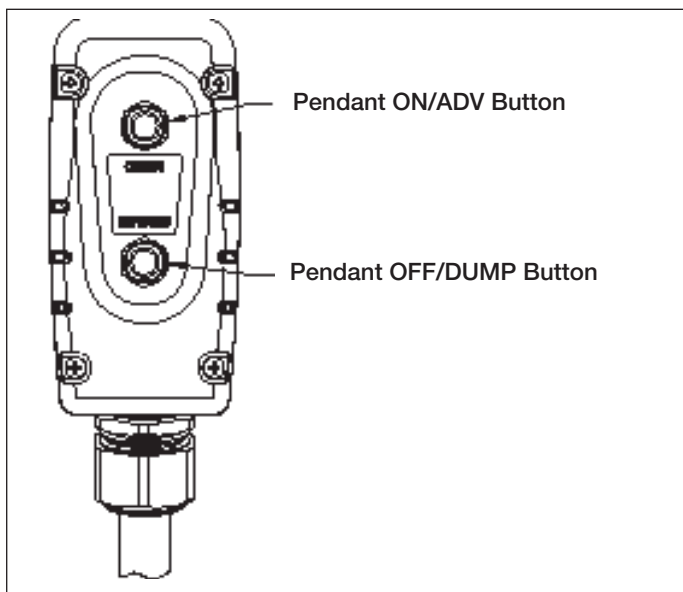

Figure 7, Pendant Buttons
5.2 Pendant Operation (See Figure 7)
5. To start the pump, press the "ON/ADV" button on the pendant. See Figure 7. The motor will start automatically, and the wrench will begin to advance. The wrench will continue advancing for as long as the button is held down.